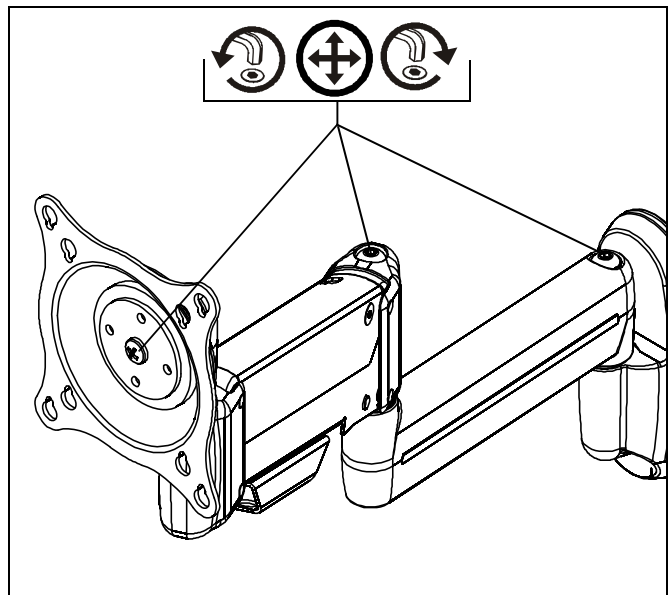

Figure 12
1. Using 3/16" hex wrench (F), loosen or tighten adjustment screw(s) as necessary (See Figure 12).